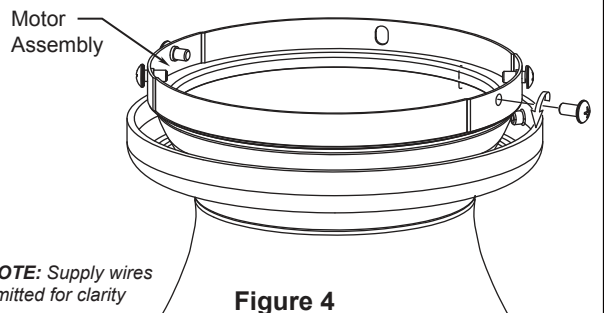

Figure 4
3. Remove the two screws from the motor assembly, retain the screws for later and loosen the remaining screws. (Figure 4)
- 4. Securely attach the 9-pin switch cup connector to the wiring harness socket within the upper LED plate assembly. (Figure 4)
- 4.** To set the remote code with a small screwdriver or ball point pen (neither included), slide dip switches firmly up or down. (Figure 4)